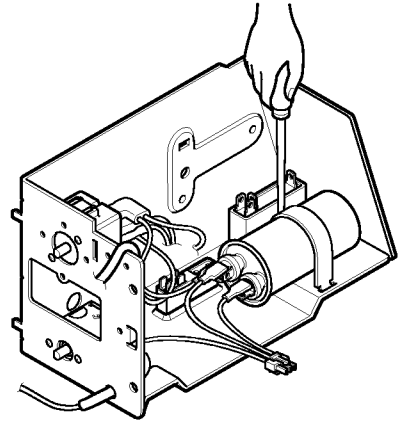

Figure 11
4. Re-install the components by referring to the removed procedure, above. (See figure 11)